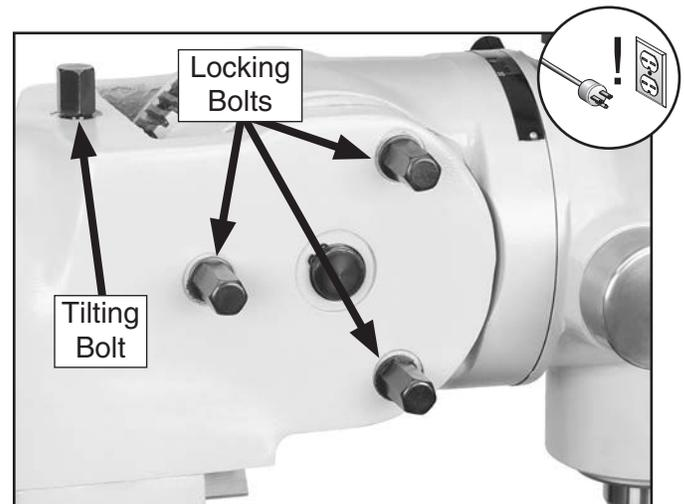

Figure 28. Head tilting bolts.
2. Loosen the three tilt locking bolts shown in **Figure 28**.